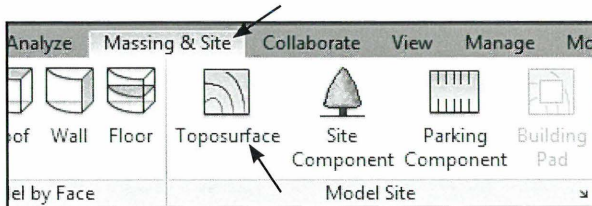

Fig. 10.22. Massing & Site - Toposurface.
- Klik *Massing & Site - Toposurface* (Fig. 10.22).